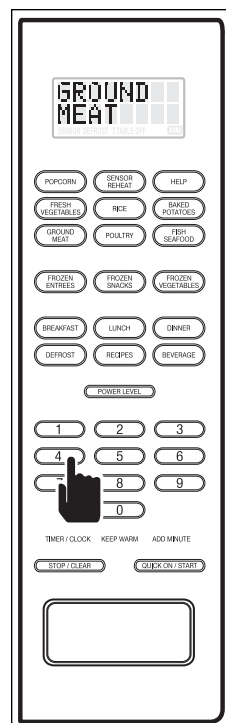

Figure 3-56.
2. Press the desired number key, based on the information found on the label affixed to the door sealing surface, just above the oven cavity, or in the Super Defrost and Auto Defrost charts in the Use and Care Guide.. For example, the number 4 key is used for “Ground Meat, .5 to 3.0 pounds”. Press the number 4 key and “GROUND MEAT - ENTER WEIGHT - IN POUNDS” will flash on the display (See Figure 3-56).